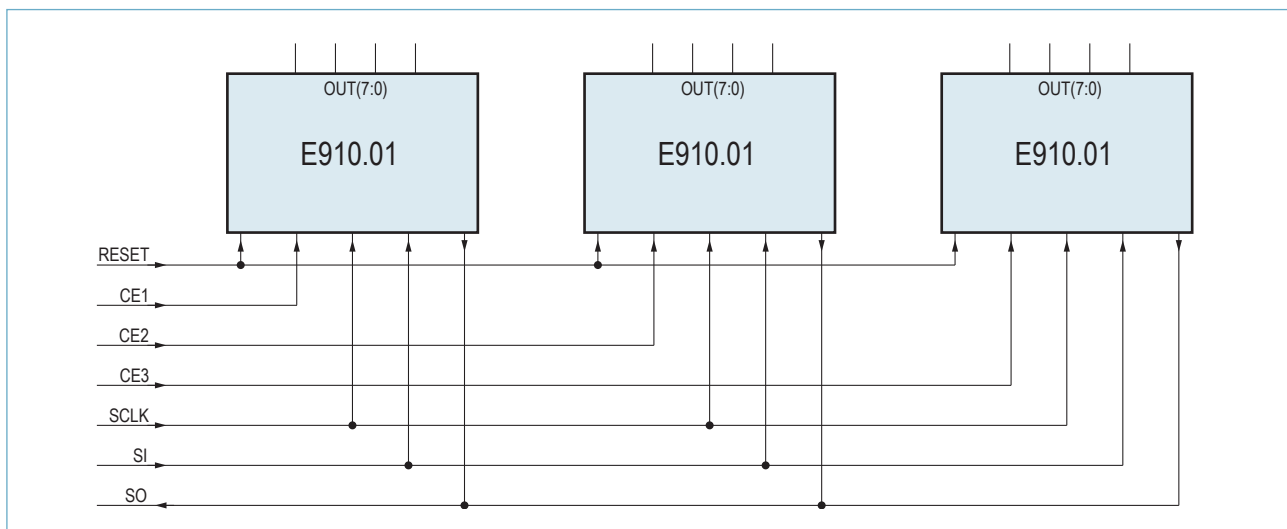
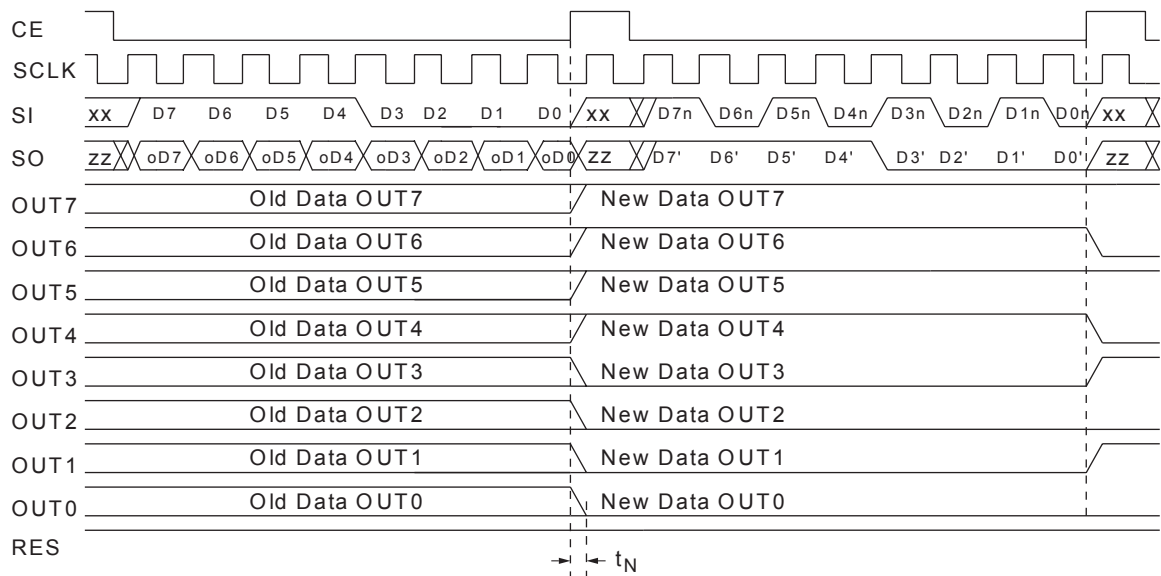

Figure 5: Parallel data input
Figure 9: Timing diagram operating mode
a) Parallel data input (see Figure 5 and Figure 9)